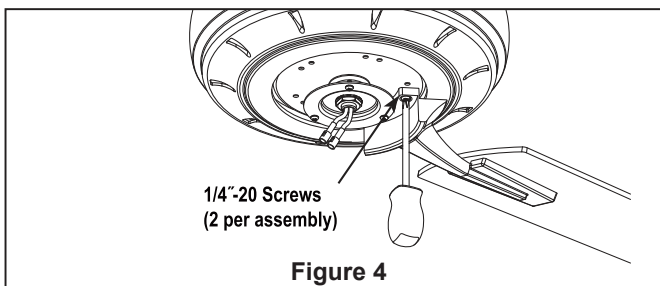

Figure 4
- ☐ 4. Attach blade holders to the bottom of the fan motor hub using the 1/4"-20 socket head screws w/lockwashers. Make sure the screws with lockwashers securing the blade holders to the fan motor hub are tight and that the blade holders are properly seated. (Figure 4)